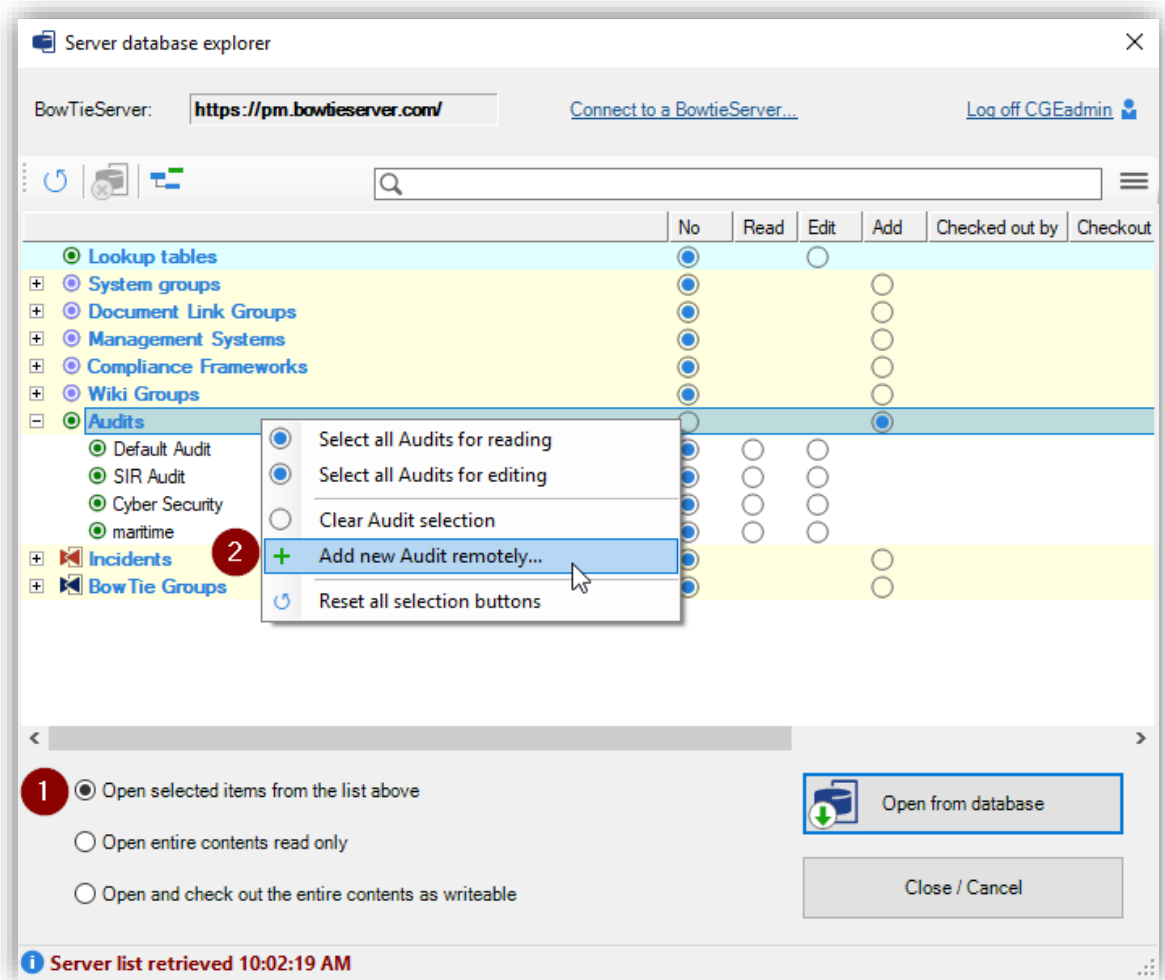
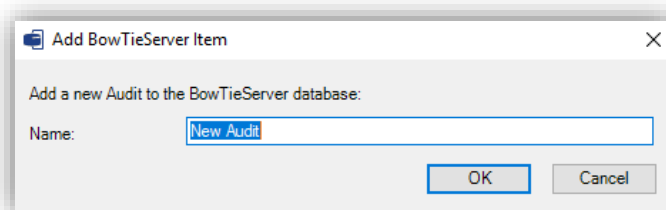
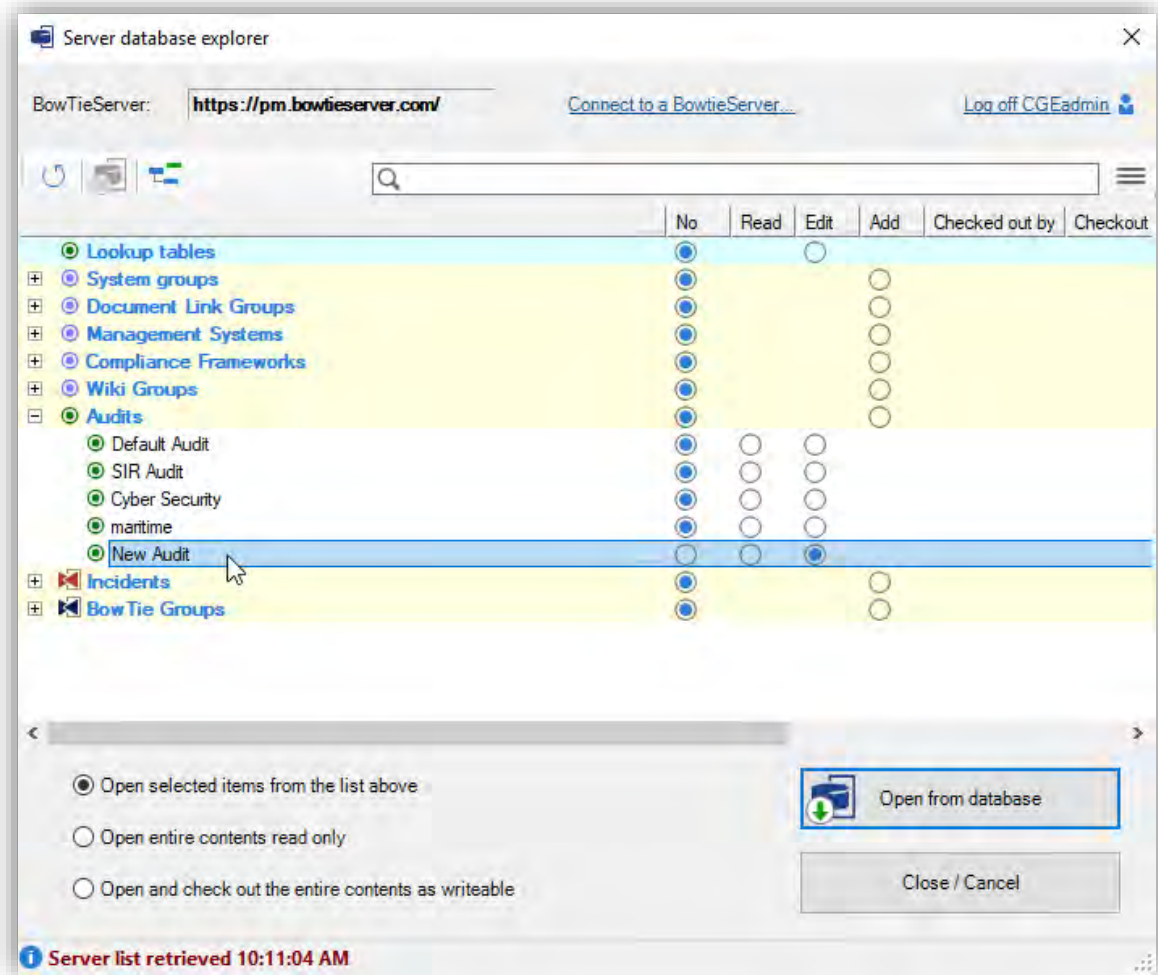

Figure 277 – Add new audit remotely (1/3)
Figure 278 -Add new audit remotely (2/3)
Figure 279 - Add new audit remotely (3/3)
To do this, follow these steps and also see Figure 277, Figure 278 & Figure 279 for reference. Connect with BowTieServer using () (please see the BowTieServer Software Manual on how to do this).
1. Select 'Open selected items from the list above' in the lower left bottom of the screen (Figure 277)
3. Enter a name for the new audit select 'OK' (Figure 278).
4. Select the edit radio button for the newly created audit (Figure 279).